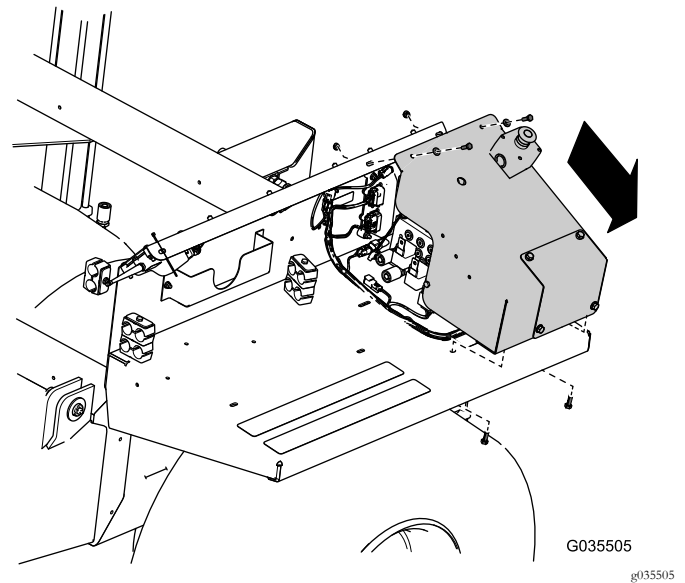

Figure 1
5. Remove the cover as shown in Figure 1.